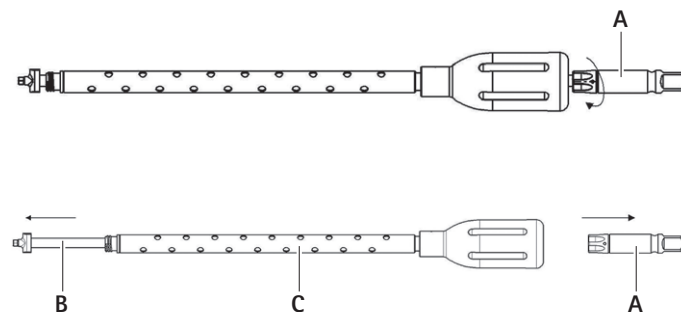

Fig. 12 Disassembling the threaded screwdriver
6.5 S⁴ Cervical TH Threaded screwdriver (12)
- Slide screwdriver shaft B through the handle-sleeve assembly C, see Fig. 12.